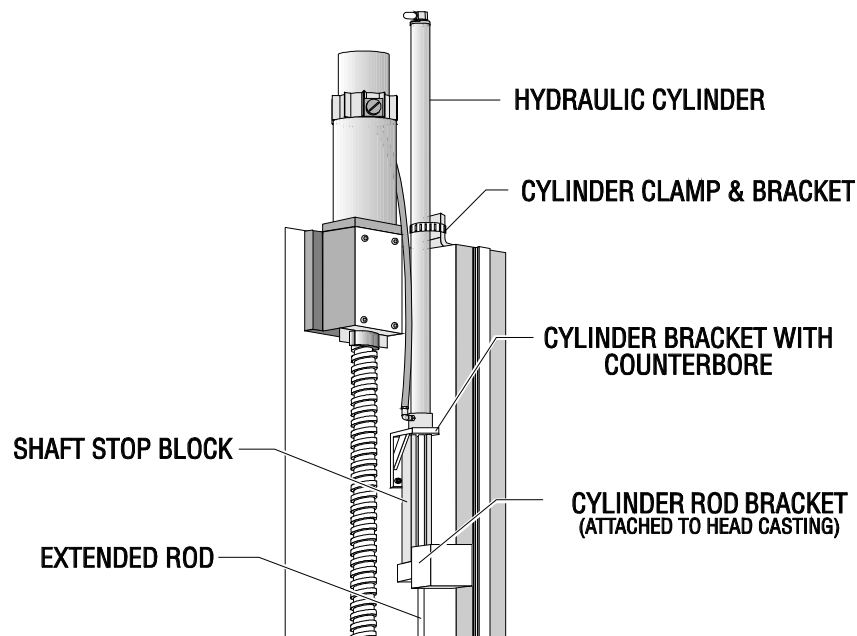

Fig. 9-6 Z-axis motor and components for machines equipped with hydraulic counterbalance.
5. If the machine is equipped with a hydraulic counterbalance, install cylinder shaft stop PN 99-7502 (See Fig. 9-6). HANDLE JOG Z-axis up until shaft stop blocks axis.